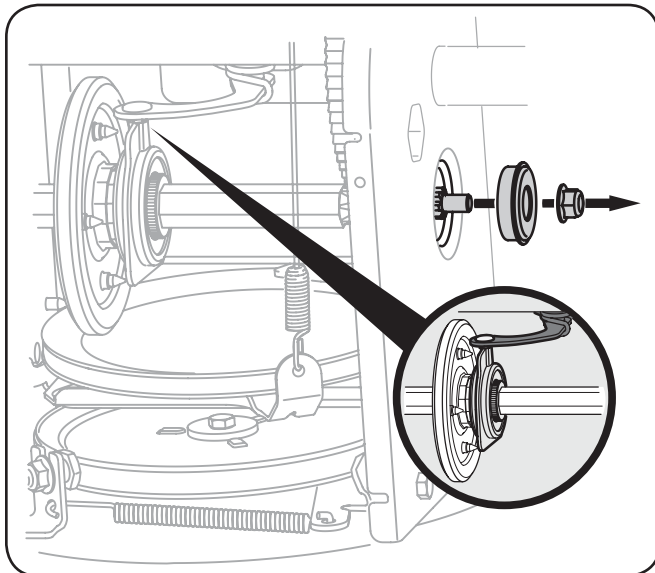

Figure 7-9
- Carefully remove the hex nut which secures the hex shaft to the snow thrower frame and lightly tap the shaft's end to dislodge the ball bearing from the right side of the frame. See Fig. 7-9.
NOTE: Make sure the shift lever pin is in place in the bearing housing. See Fig. 7-9 inset.